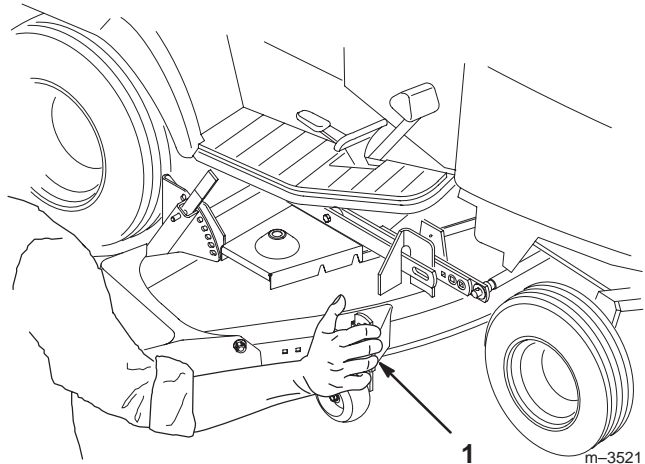

Figure 8
8. After the two J-pins are seated through the mower mounting brackets, using the attachment lift and your hand on the right front adjustable mower wheel bracket (Fig. 8), position the mower so its attachment bar fits into the mid Attach-A-Matic™ mount.